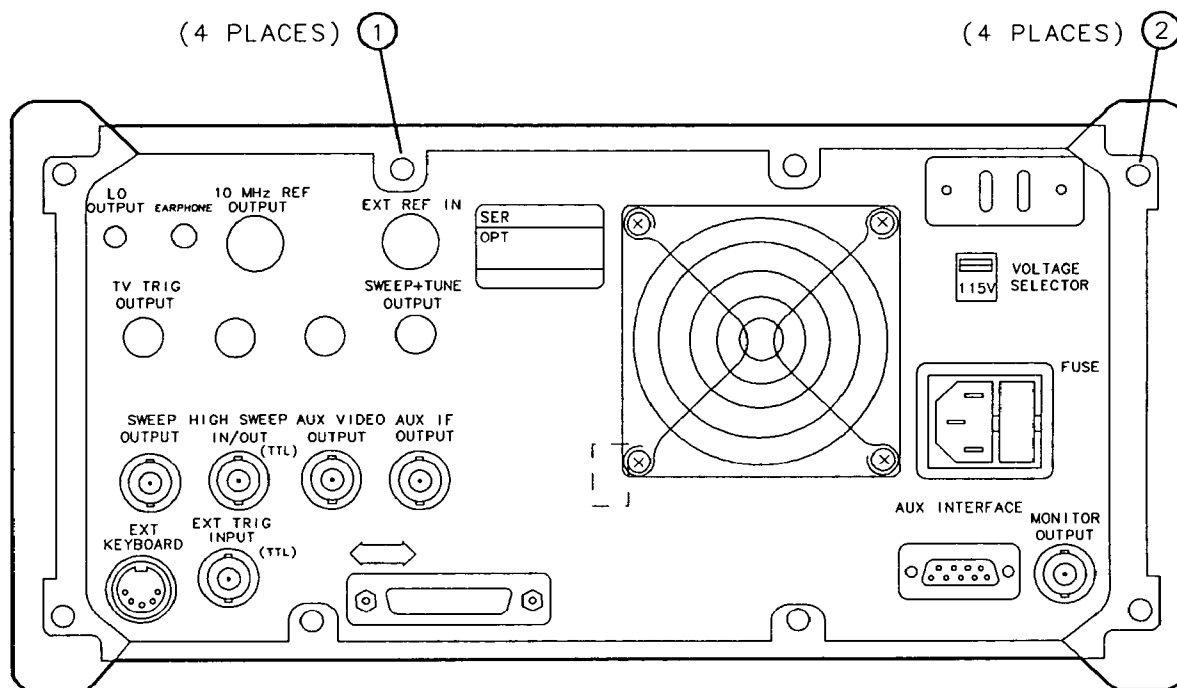

Figure 3-16. Instrument Cover Screws
3. Remove the four screws (1) and washers attaching the instrument cover to the rear frame. See Figure 3-16.
4. Unscrew, but do not remove, the four rear-foot screws (2), using a 4 mm hex wrench.